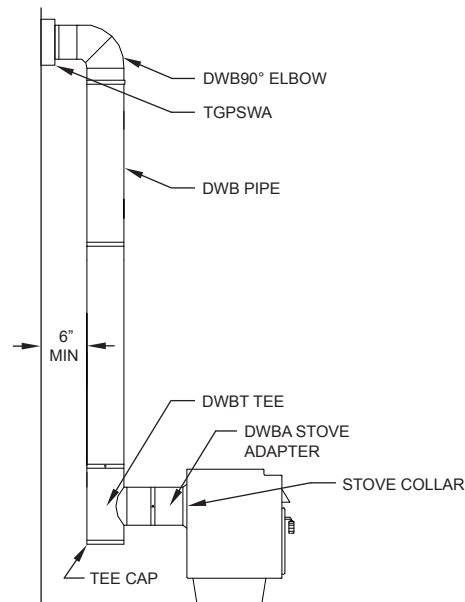

FIG. 4
- If your stove has a rear outlet and you need to go upward, the Double Wall Black Tee (DWBT) can be used. A DWBA must be installed at the stove collar before attaching the DWBT. The DWBT then is installed onto the DWBA. If the listed chimney system is in a chase, and the DWB connector pipe must go horizontally, a Double Wall Black 90 degree elbow (DWB90) can be used. (See **FIG. 4**). Secure all joints with sheet metal screws.